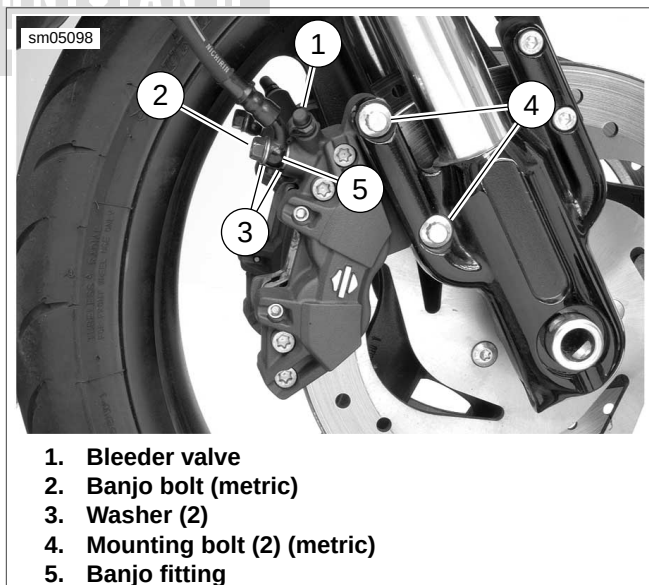

Figure 2-102. Front Caliper Assembly: XR Models
2. See Figure 2-102. Place brake caliper over brake disc with bleeder valve (1) facing upwards. Install mounting bolts (4) and tighten to 28-38 ft-lbs (38.0-51.6 Nm).